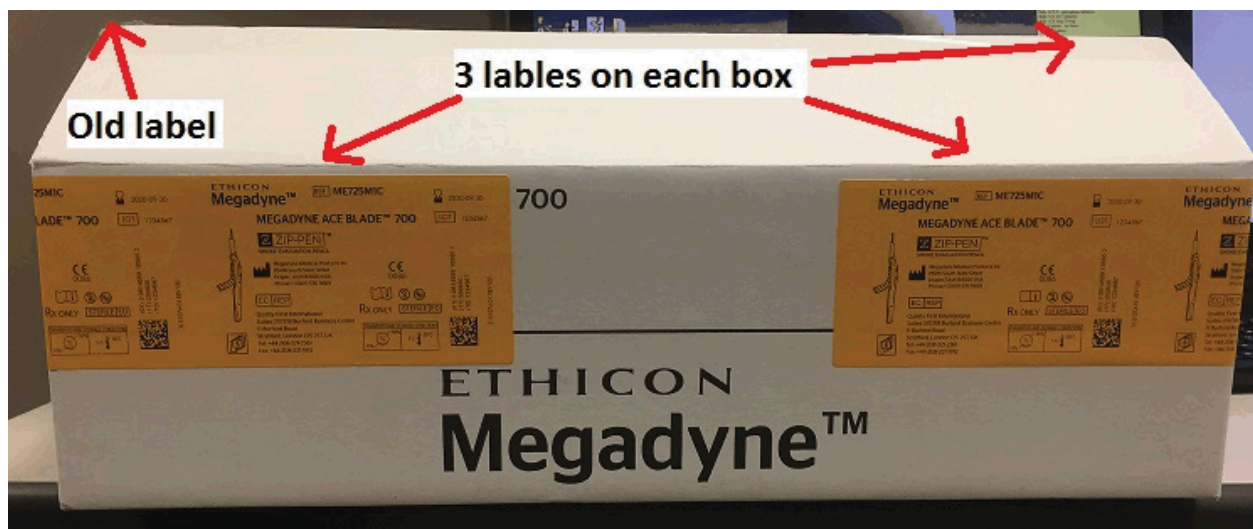

Figure 1: Label configuration to optimize testing.
in placed of eighteen (18) (see Figure 1). Placing multiple label on a box is acceptable as the label/box interaction is identical along each vertical edge and face of the box. It should be noted that four labels cannot be used on each box as an old label can be found along one vertical edge of the boxes (see Figure 1).